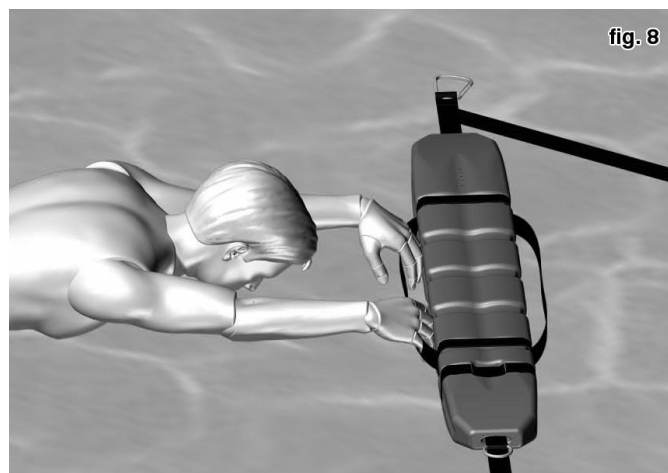

fig. 8
- Tell the victim to grab Dolphin. You can do this either through the terminal strap or with the handles on the sides as shown in fig.8.
- Hand Dolphin to the victim, who can grasp the terminal part of the belt or the handles on the sides as shown in fig.8. These handles provide greater security for the victim.
- c) Slide Dolphin under the back of the victim (Fig. 8).